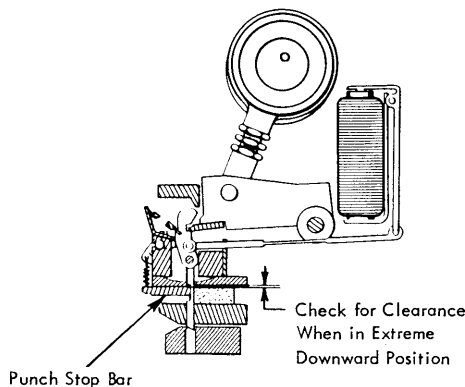

Figure 42. Punch Bail Stop Bar
### PUNCH STOP BAR (FIGURE 42)
- b. Press on the top of the engaged interposers and carefully check for additional downward movement of at least .005" (Figure 42). This is to insure that the notch in the punch will not be driven against the punch stop bar.
- c. Further check this adjustment after all other die and stripper and vertical punching registration adjustments have been made. Run approximately fifty cards through the machine and punch zeros in all eighty columns. The holes in all positions should be punched cleanly. If not, increase the punch travel slightly. Be sure to check for some punch to stop bar clearance each time until the test is performed successfully (See Figure 42). Punch travel into the die should always be held to a minimum consistent with proper punching results. This insures longer die life and minimizes pulling of card chips.